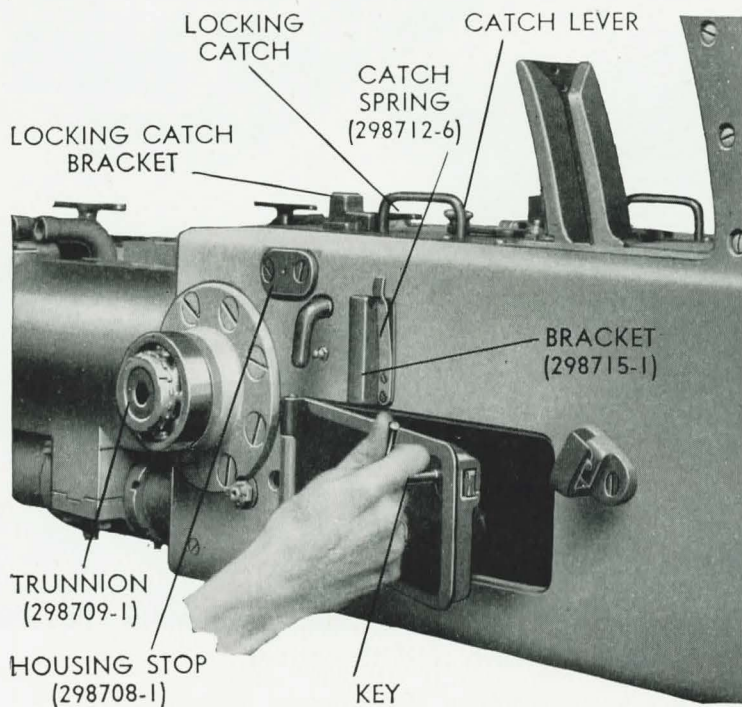

Figure 74
- (1) Insert the key (298871) and turn it to release the catch.
- (2) Swing the door open, **Figure 74.**